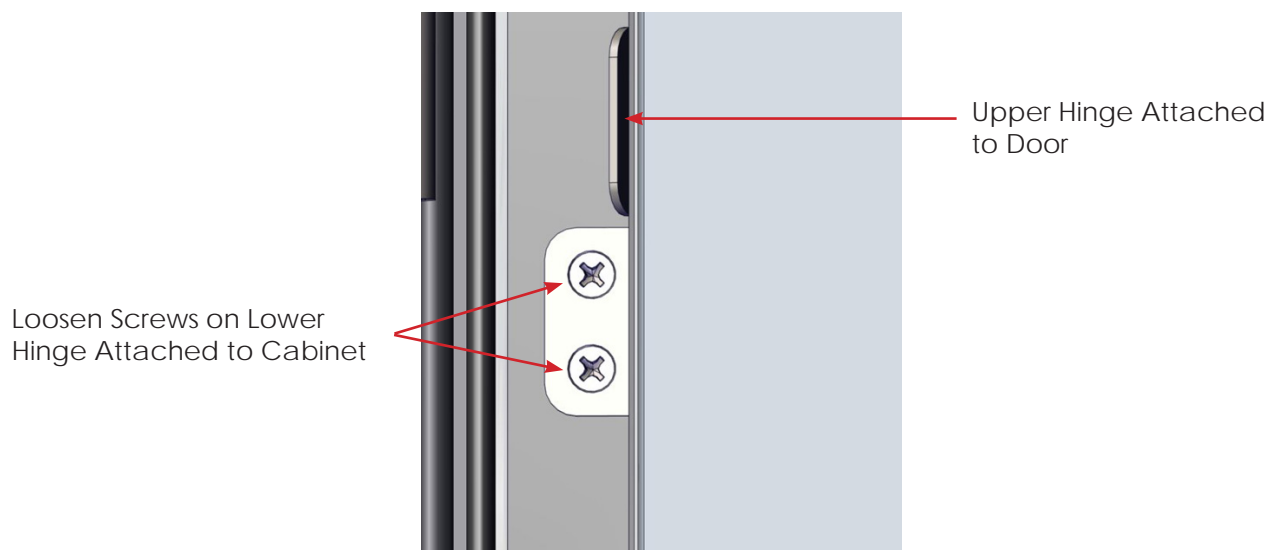

Fig. 21: Loosen Hinge Screws
1. Open one door fully and loosen the screws on the hinges that attach to the sides of the cabinet (two screws per hinge) (Fig. 21)